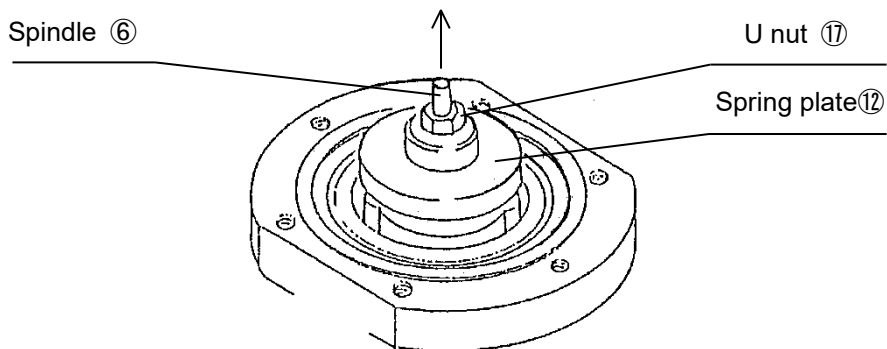
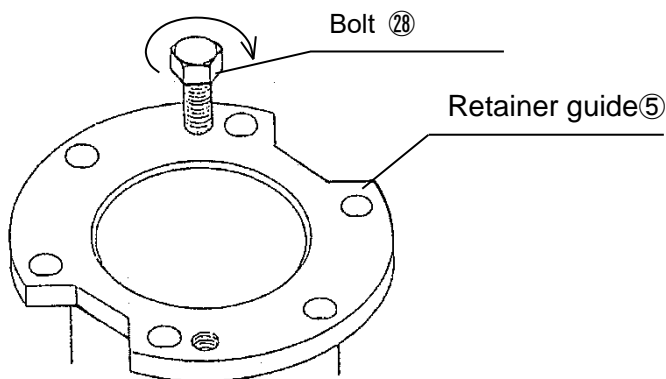

Fig. 14
Fig. 15
- (1) Release the internal pressure completely, and make sure of zero pressure.
- (2) Slightly loosen the lock nut [16] and turn the adjusting screw [15] counter clockwise to relieve the adjusting spring [14] (Unload the spring).
- (3) Remove the hexagon bolt [29] from the spring chamber [2], then remove the spring chamber, and take out the adjusting spring [14] and the spring plate [13].
- (4) To remove the diaphragm [11], fix the spindle [6] and remove the U nut [17].
- (5) To remove the retainer [4], loosen and remove the retainer guide [5] clamping bolt [28] and pull the retainer guide [5]. Remove it by the bellow method (Fig.14, Fig.15) when it is difficult to remove the retainer guide [5].
- (6) To remove the valve seat [8], pull the spindle [6].
- (7) Fix two planar sections at spindle [6] and loosen U nut [19] for spindle [6] to remove it, then the valve [9] can be dismantled.
To remove the retainer guide [5] easily, install the spring plate [12] and U nut [17] to spindle [6] again and pull the spring plate [12]. (Fig. 14)
To remove the retainer guide [5] easily, screw the bolt [28] to retainer guide [5] and pull it. (Fig.15)